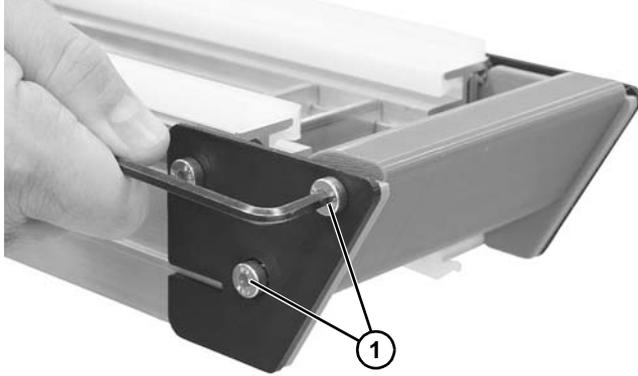

Figure 63
1. On both sides of conveyor, remove two fastening screws (Figure 63, item 1).